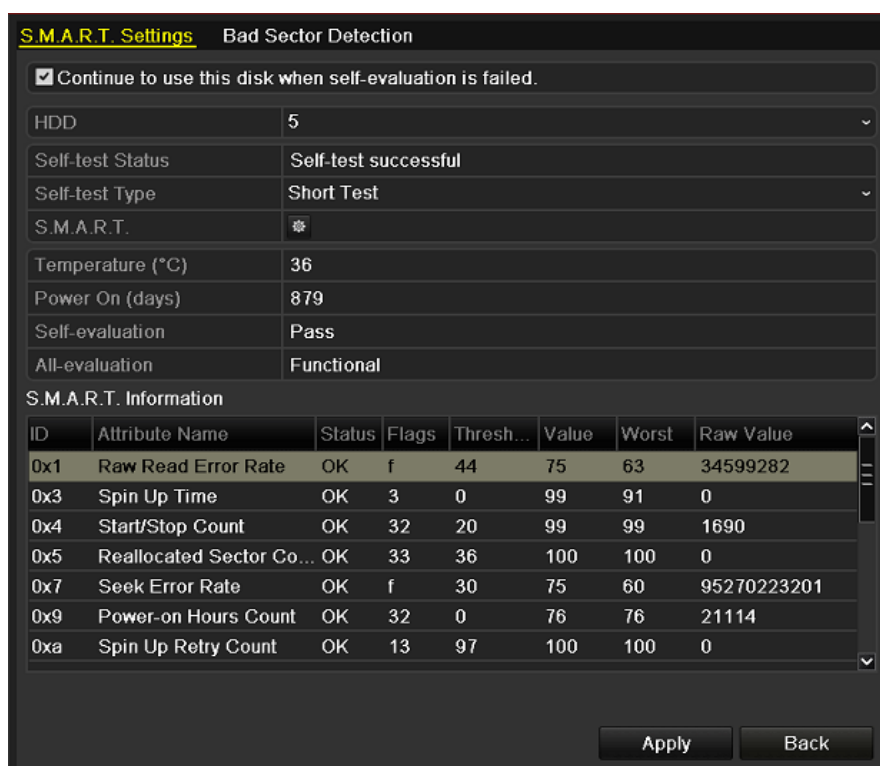

Figure 10. 20 S.M.A.R.T Settings Interface
2. Select the HDD to view its S.M.A.R.T information list, as shown in Figure 10. 20.